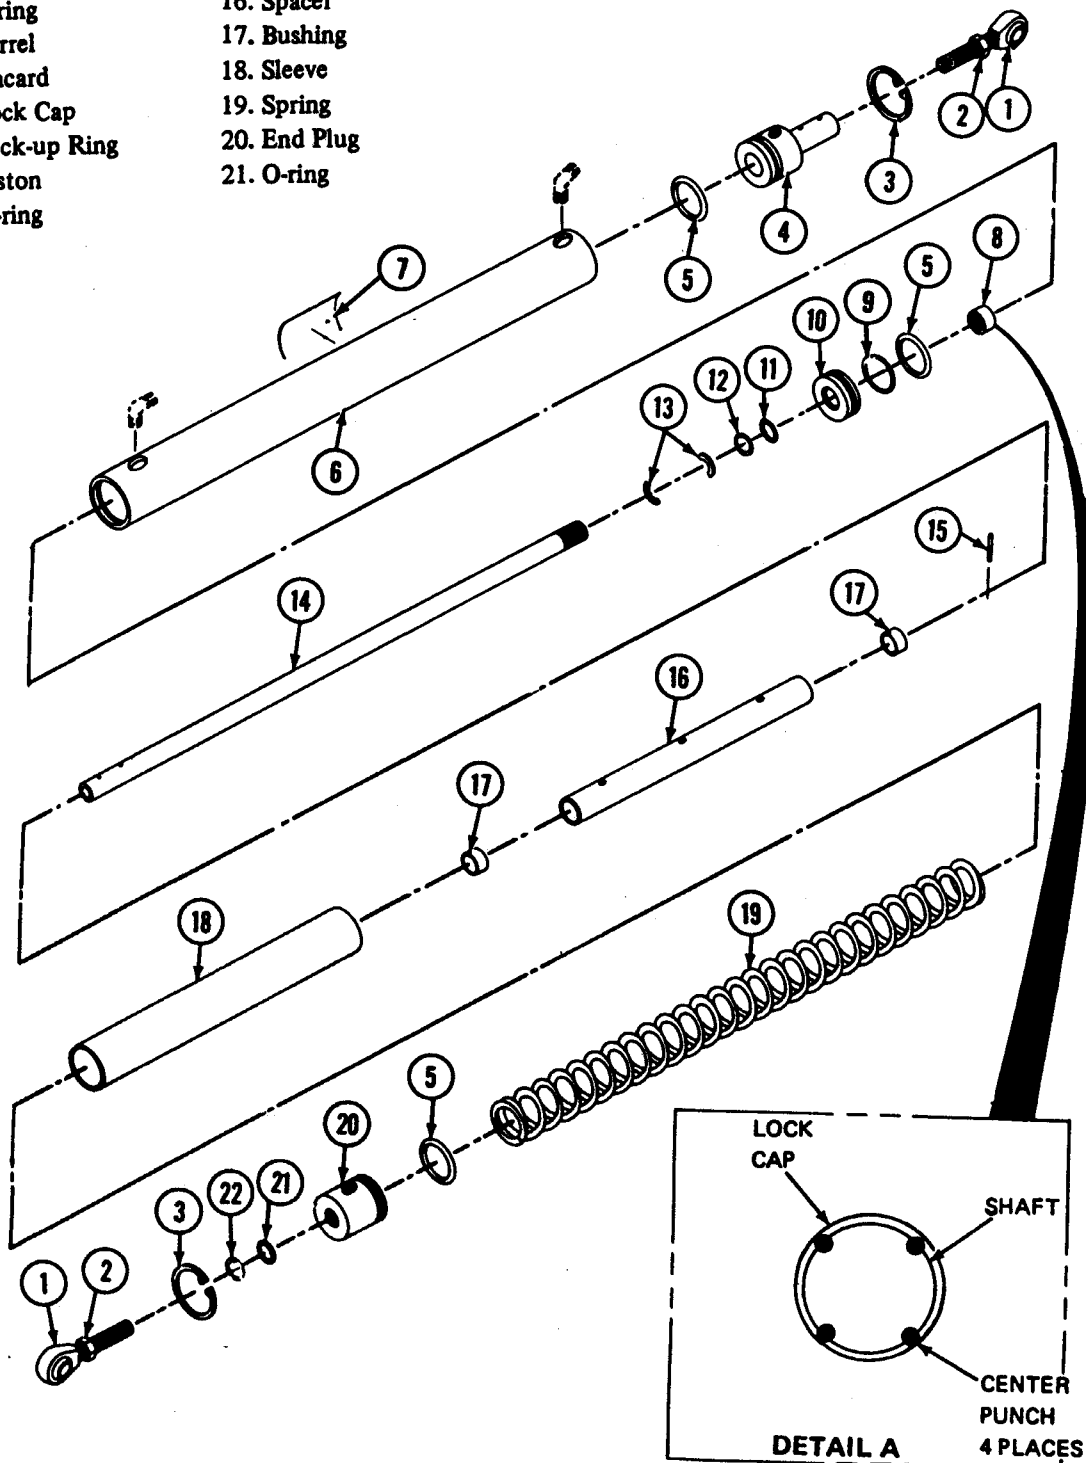

Figure 7-4. Nose Gear Actuating Cylinder Aircraft Serial Numbers 78-30905 and below, and 32-15, 31004 and above.
a. On Aircraft Serial Numbers 78-30905 and below, and 32-15,31004 and above, perform the following procedures to disassemble and repair the nose gear actuating cylinder or replace O-rings (see Figure 7-4).
(1) Remove the two hydraulic fittings from the barrel (6, Figure 7-4).
(2) Remove the safety wire from the check nut (2) and shaft (14).
(3) Loosen the check nut (2) and remove the rod end bearing (1) from the shaft (14).
(4) Apply enough force to the end plug (20) to relieve spring pressure against the retaining ring (3) and remove the retaining ring (3).
(5) Carefully release the force against the end plug (20) from the barrel (6).
(6) If spring pressure did not push the end plug (20) off the shaft (14), pull the end plug (20) off the shaft (14).
(7) Remove the spring (19).
(8) Remove the retaining ring (3) and remove the rod end bearing (1), check nut (2) end plug (4), and O-ring (5) from the barrel (6) as an assembly.
(d) When the piston (10) and lock cap (8) are installed on the shaft (14), use a center punch and stake the cap and shaft in four places (see Figure 7-4, Detail A).